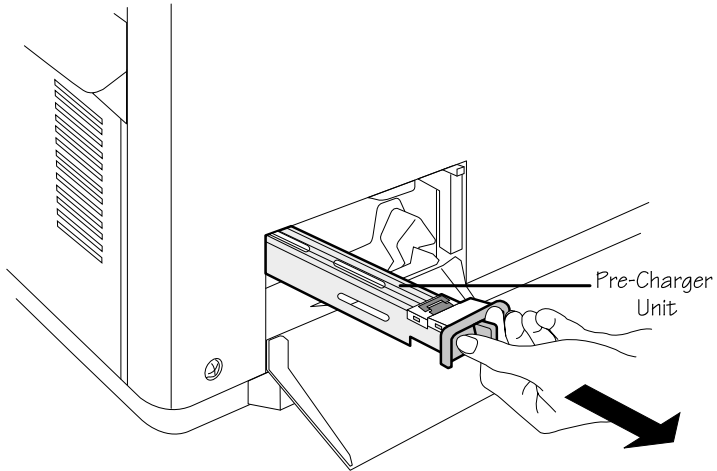

Fig. 6.14 Remove the Pre-Charger from the Printer
2. Grasp the end of the pre-charger unit, and pull it downward and then straight out of the printer (fig. 6.14).